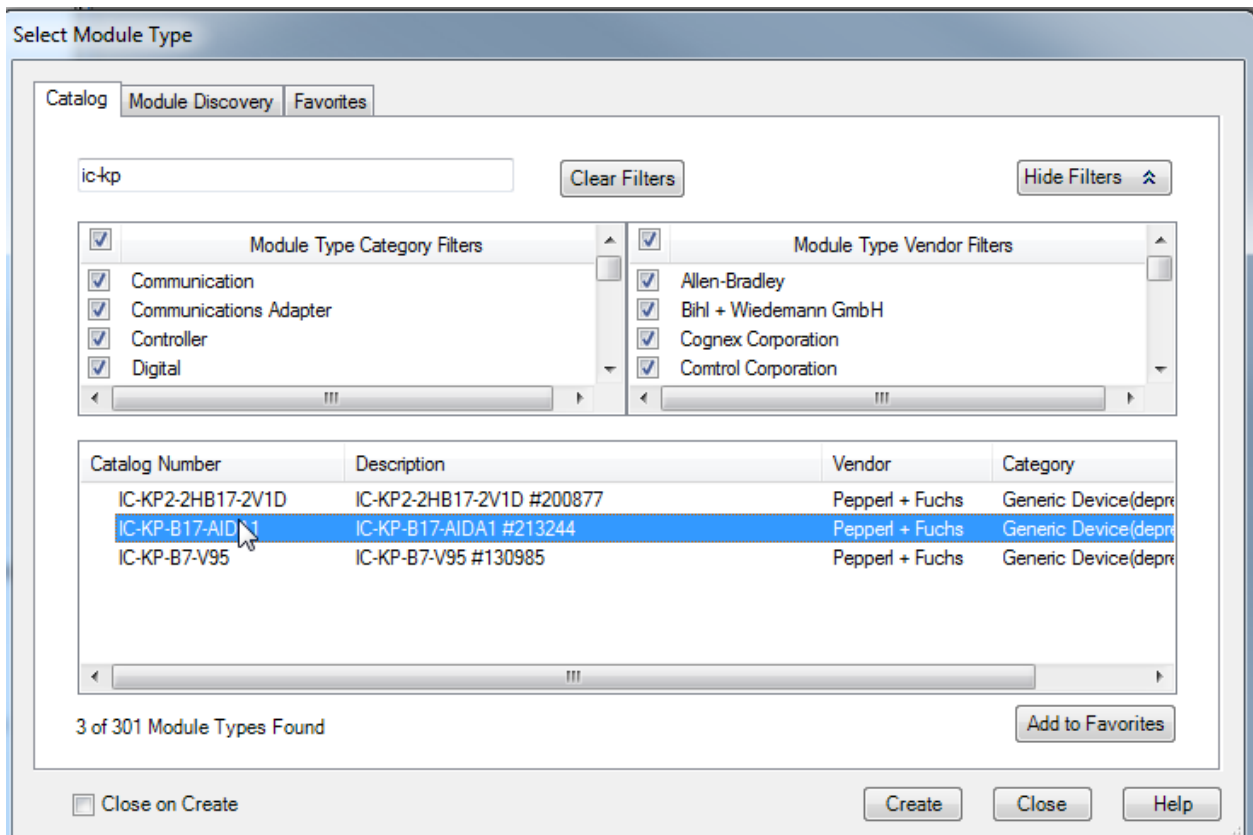

Figure 8: Pick the RFID controller you want to use
Step 3: Select the device/EDS file that you installed. See Figure 8.